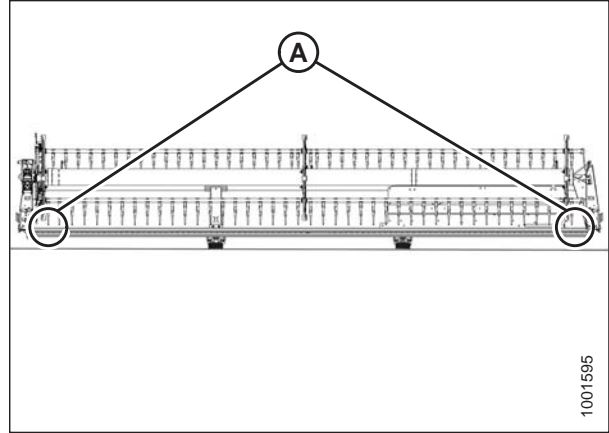

Figure 5.157: Single Reel Measurement Locations (Two Places)
5. Measure the clearance (X) at all possible points of contact (between points [B] and [C] at the ends of each reel [A]) as shown in Figures 5.157, page 186 and 5.158, page 186.